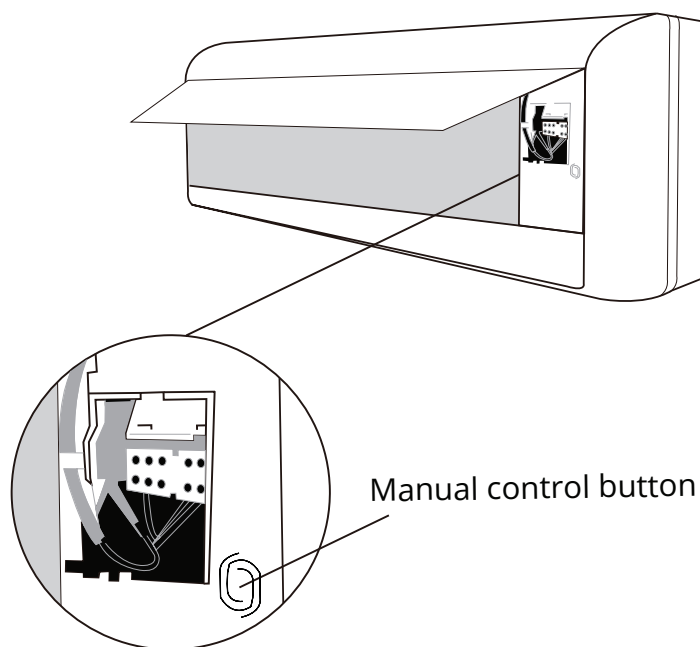

Fig. 10.1
2. The MANUAL CONTROL button is located on the right-hand side of the unit. Press it 2 times to select the COOL function. See Fig.10.1